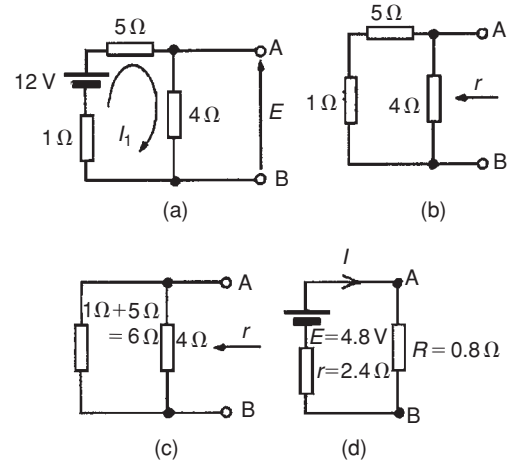

Figure 13.40
- (i) The 0.8Ω resistor is removed from the circuit as shown in Fig. 13.40(a).
P.d. across 4Ω resistor $= 4 I_1 = (4)(1.2) = 4.8 \text{ V}$. Hence p.d. across AB, i.e. the open-circuit voltage across AB, $E = 4.8 \text{ V}$
- (iii) Removing the source of e.m.f. gives the circuit shown in Fig. 13.40(b). The equivalent circuit of Fig. 13.40(b) is shown in Fig. 13.40(c), from which, resistance
- (iv) The equivalent Thévenin's circuit is shown in Fig. 13.40(d), from which, current